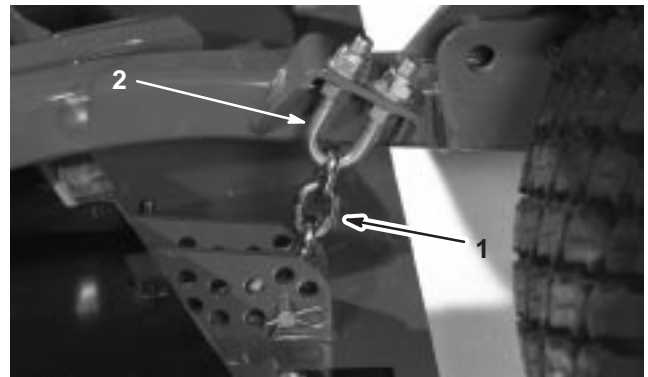

Figure 12
- Remove the hairpin cotter and clevis pin securing the height-of-cut chains to the rear of the center cutting unit (Fig. 12).